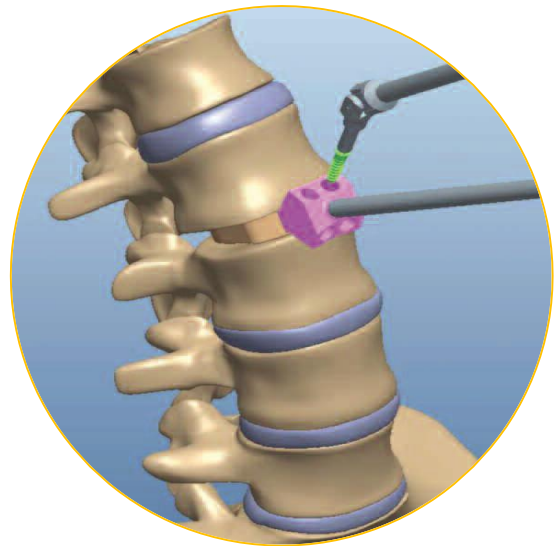

Figure 12a: Remove Bone Screws
- C. The Universal Screwdriver (10-1003-2) with 2.5mm tapered hex is utilized turning counter clockwise to remove Bone Screws (Figure 12a).